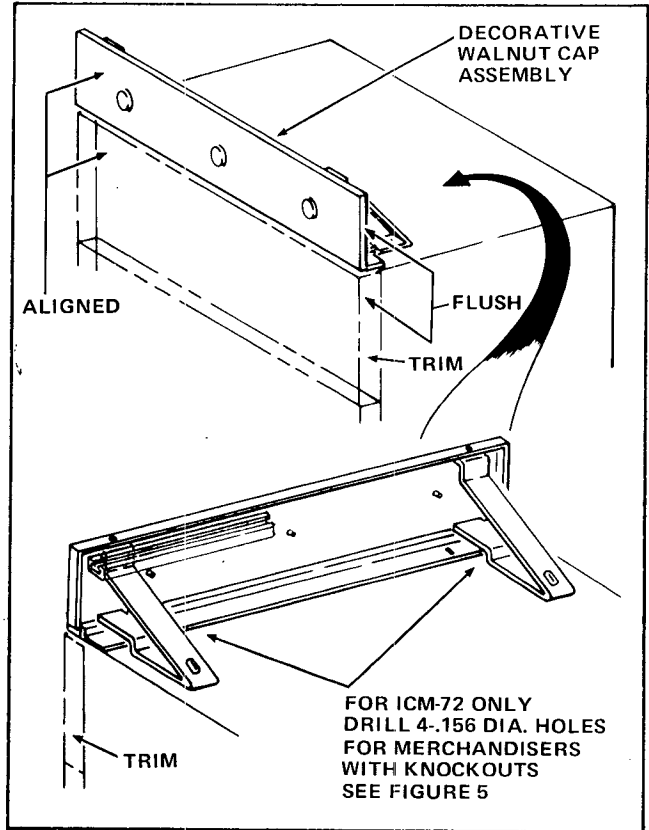

FIGURE 6
4. Align the sides of the Cap Panel with the sides of the Merchandiser and the front face of the Cap Panel with Upper Panel of the Merchandiser Door. See Figure 6.